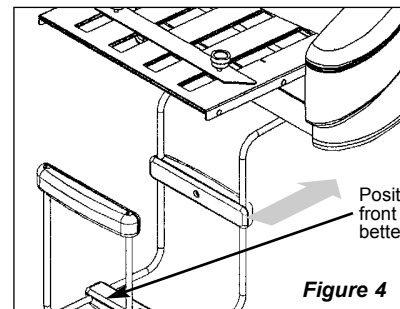

Figure 4
3. The assembled Exit Tray should fit underneath the machine (Figure 4). It does not snap into place, the weight of the machine will hold it in position. Push the Tray so it is against the tabletop. Many users find it easier to attach the first connector to (1) metal part and screw halfway together. The other metal portion may then be installed to the plastic connector and screwed together completely.